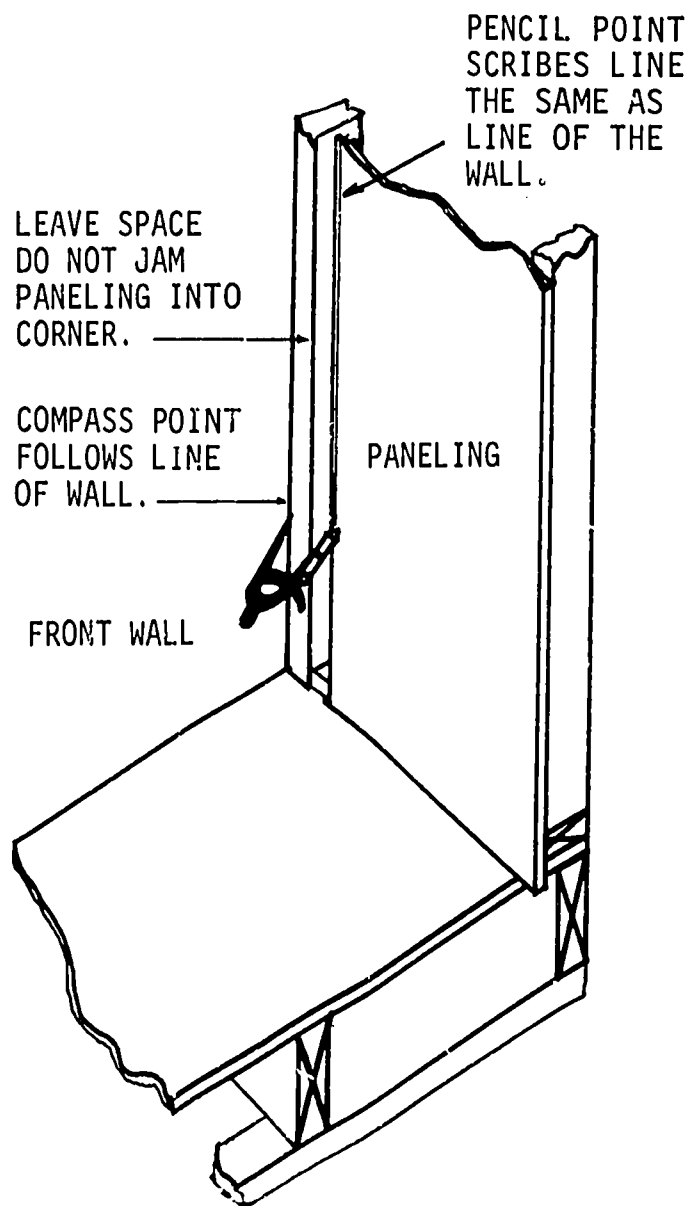

Fig. 61C-1. Scribing to Obtain Good Fit
4. Let the surface of the front wall guide the compass point, and scribe a line on the paneling. See Fig. 61C-1.
5. Plane the paneling edge to the scribed line. See Fig. 61C-2.